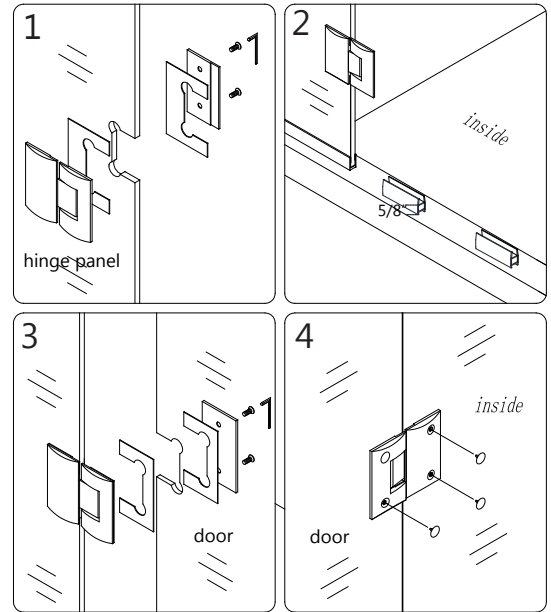

Fig 10
**9.** Attach the **Hinges (05)** to the **Hinge Panel glass (32)** with the decorative bolts facing inside the shower. The **Door Glass (01)** ships with four **5/8" shims** attached to the top (2pcs) and bottom (2pcs). Determine the swing of the door. Remove the shims from the top of the door glass and leave the bottom shims in place. Set the **Door Glass (01)** onto the threshold at the desired location and check for level. These 5/8" shims will leave the proper spacing at the bottom of the door glass and will ensure that the door height finishes at 72", but always confirm with a measurement. Level up the **Door Glass (01)** with the **Hinge Panel glass (32)** and fasten the hinges onto the **Door Glass (01)** using one gasket per side. Make sure the top edges of the **Door Glass (01)** and **Hinge Panel glass (32)** are aligned. Remove the 5/8" spacers from beneath the Glass door.\*\*
**See Fig. 10 for details.**